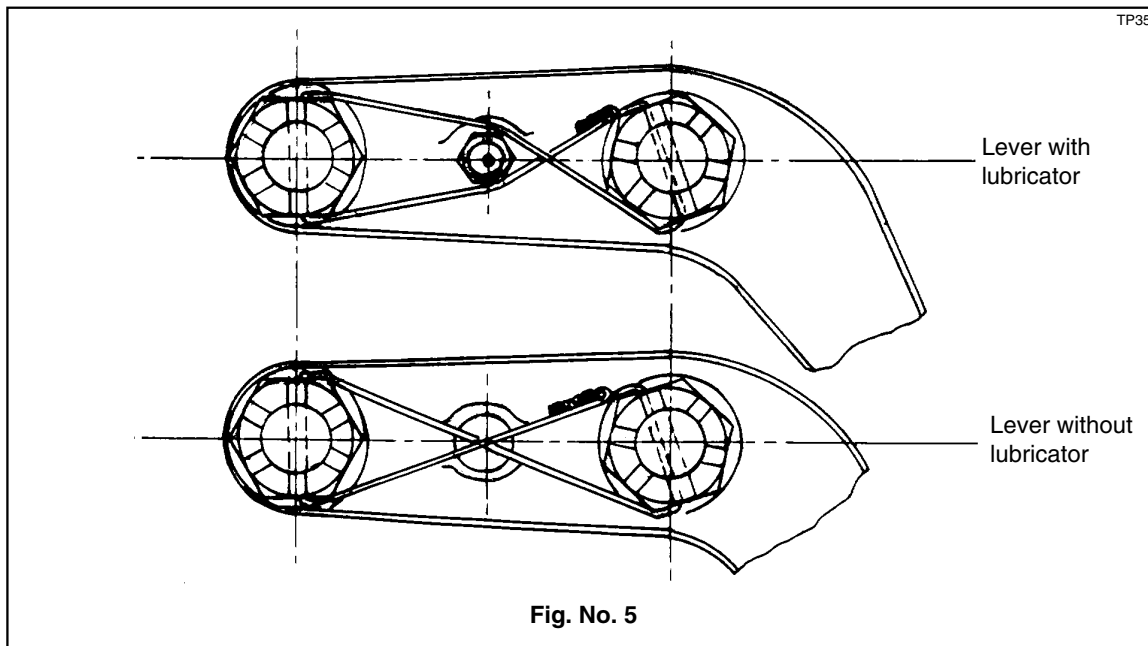

Fig. No. 5
- 9.5 Refit chamber / cam bracket (88) onto chamber bracket studs (83) and secure in position with nuts (95). Tighten nuts to 190 - 210 lbs. ft. (258 - 285 Nm.). Secure in position using 16 swg lockwire (see fig. no.5).